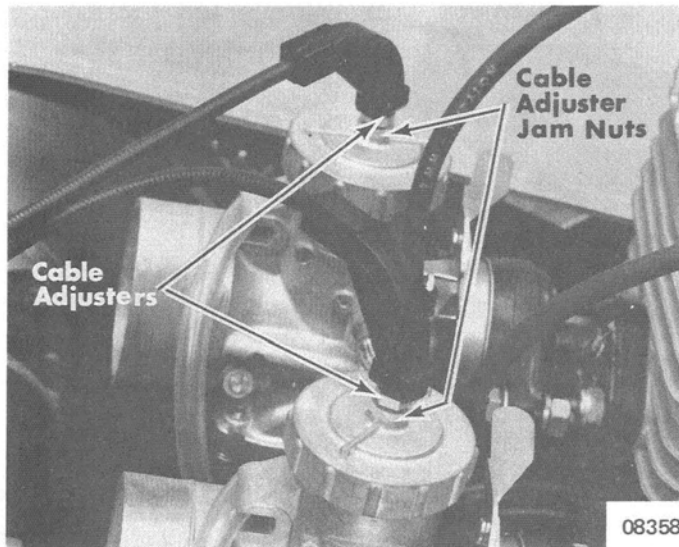

Figure 3. Cable Adjusters
- a. Loosen cable adjuster jam nut (Figure 3) on each carburetor.
- b. Turn cable adjuster(s) (Figure 3) until both throttle valves are synchronized (move at same time) and "slack" is removed from cables.